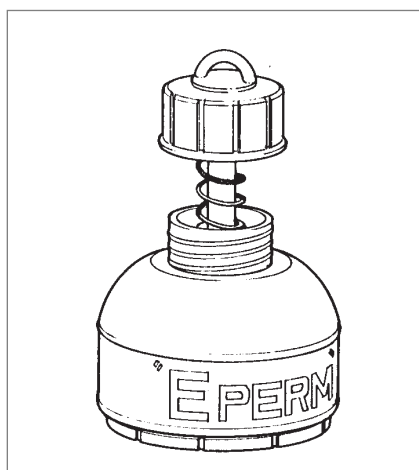

Figure 7: Electret Ion Chamber
- **Electret Ion Chamber** – This method uses a special plastic canister that contains a disk called an “electret” with an electrostatic charge (*see* figure 7). It is exposed and the change in the electret’s charge read to determine the radon level. There are two versions, one for short-term tests of a few days or weeks, and one for long-term tests of several weeks or months. Electret ion chambers may be read in the home using a special analysis device or mailed to a lab for analysis.